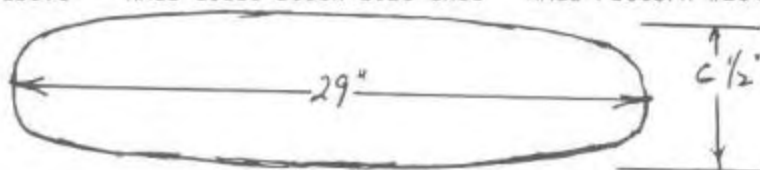

Fig. 2
*Original '37 40-C rear window shown on car owned by Andy Diem (#852), Washington, D.C. (Figure 2-A)*